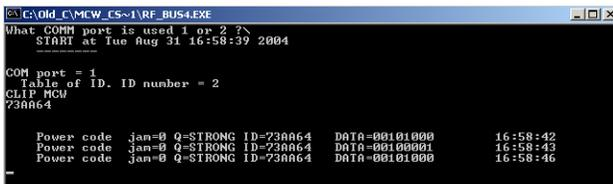

Figure 3. Specific Detector ID window
- Press 1 or 2 on your keyboard to establish which COM port is being used; a window displays a list of all the enrolled detectors and their IDs, as shown in Figure 3.
7. The system now begins to monitor the enrolled detectors. The window will display the detectors you selected as shown in Figure 3.